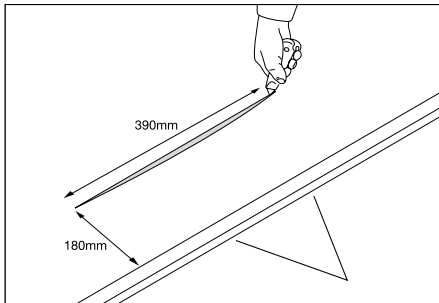

Fig 3
- 3 Make a horizontal cut in the underlay 390mm length at distance 150mm above bottom edge of batten supporting vent tile and slide soaker tray under batten and through this slit (Fig. 3).